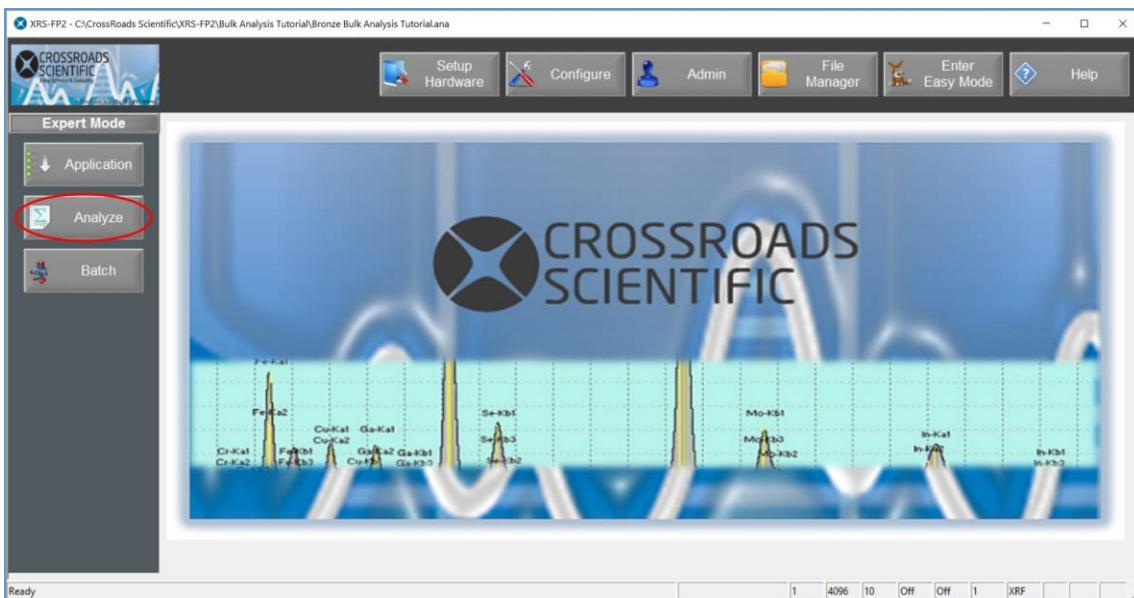

Figure 8. XRS-FP2 Analyze Workflow. From the XRS-FP2 home screen select the analyze button.
- Now click on the **Home** button and then select the **Analyze** button (Fig. 8, red circle).